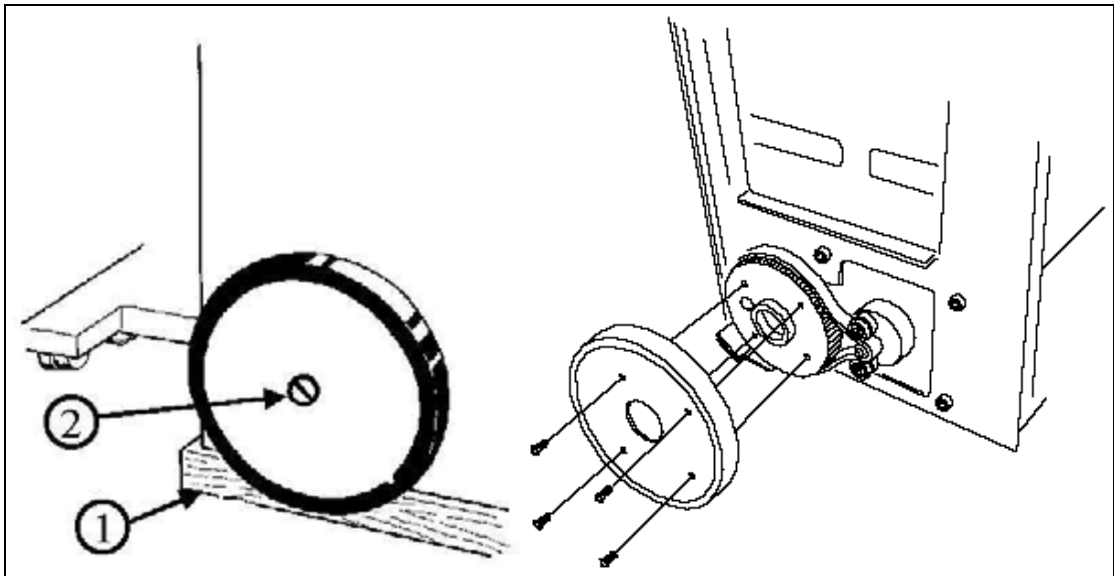

Fig. 1: Braked wheels
- Elevate one side of the system by placing a piece of wood under the chassis (Fig. 1 / p. 37).
- Remove the wheel cap and wheel (Fig. 1 / p. 37).
- Check the condition/tension of the drive belt (Fig. 1 / p. 37) (the adjustment procedure for the drive belt is described in the "Replacement of parts" instructions).